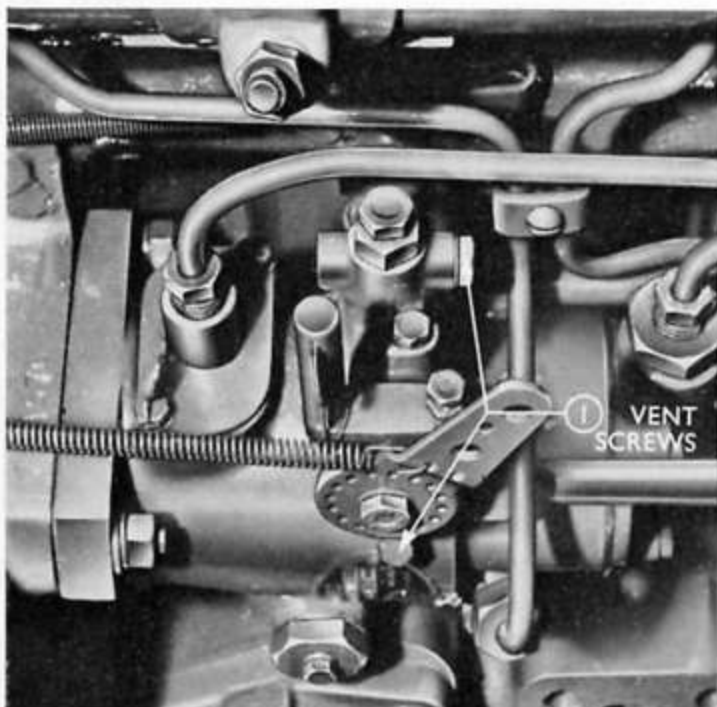

Fig. 53
- (a) Slacken the governor vent screw located at the top of the governor housing (see Fig. 53).
- (b) Slacken the hydraulic head vent screw, on the side of the pump body, again see Fig. 53.
- (b) Hydraulic head vent screw. (Fig. 53.)
- (c) Governor vent screw. (Fig. 53.)